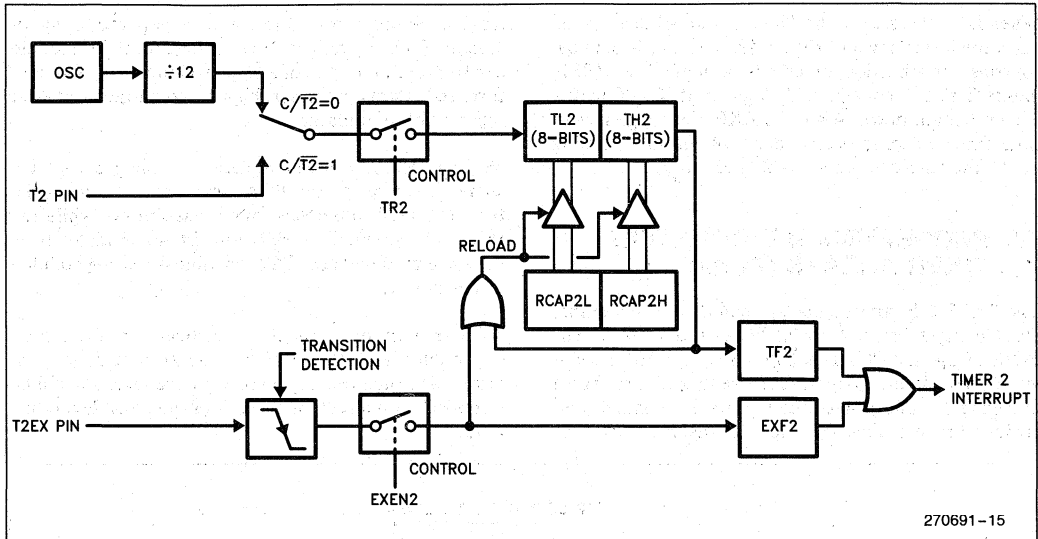

Figure 11. Timer 2 Auto Reload Mode (DCEN = 0)
with the added feature that a 1-to-0 transition at external input T2EX will also trigger the 16-bit reload and set EXF2. The auto-reload mode is illustrated in Figure 11.
The Special Function Register T2MOD contains a bit named DCEN (Down Counter Enable). T2MOD is shown in Table 11. When this bit is clear (0), the Timer 2 Auto-Reload Mode is in the Auto-Reload Mode. Figure 11 shows Timer 2 in Auto-Reload Mode with DCEN = 0.